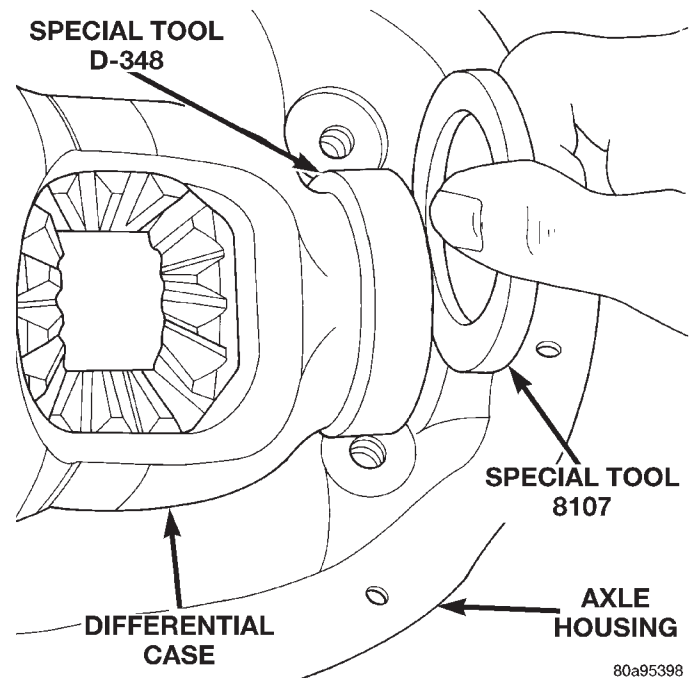
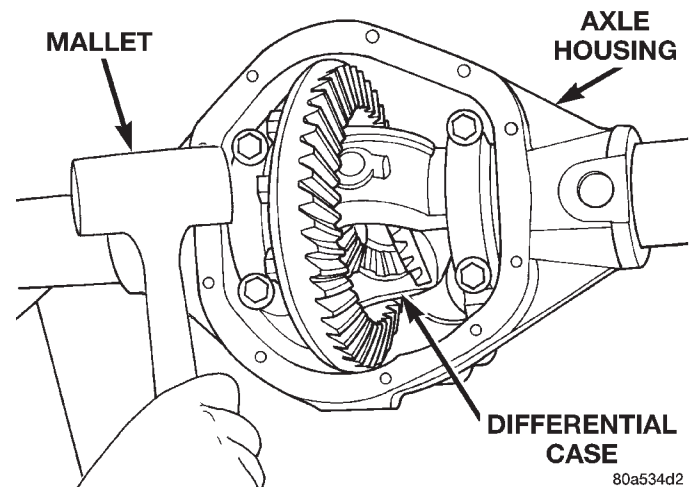
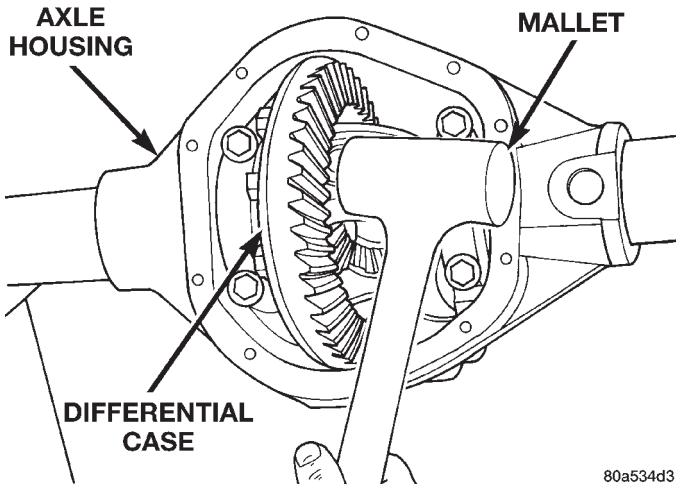

Fig. 71 Insert Starting Point Shims
Fig. 72 Seat Pinion Gear Dummy Side Bearing
Fig. 73 Seat Ring Gear Side Dummy Bearing
- (1) Remove side bearings from differential case.
- (2) Install ring gear, if necessary, on differential case and tighten bolts to specification.
- (3) Install dummy side bearings D-348 on differential case.
- (4) Install differential case in axle housing.
- (5) Insert Dummy Shims 8107 (0.118 in. (3.0 mm)) starting point shims between the dummy bearing and the axle housing (Fig. 71).
- (6) Install the marked bearing caps in their correct positions. Install and snug the bolts.
- (7) Using a dead-blow type mallet, seat the differential dummy bearings to each side of the axle housing (Fig. 72) and (Fig. 73).